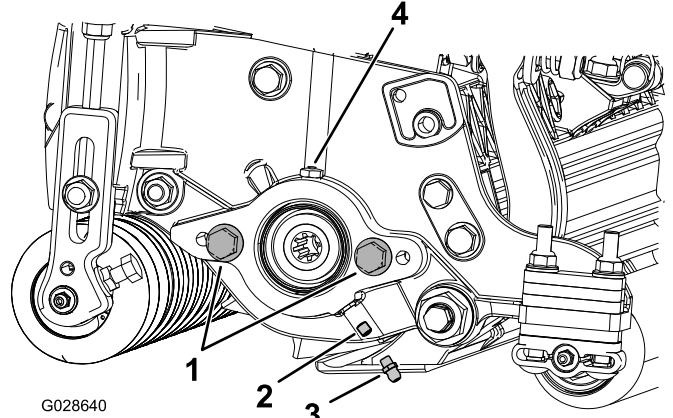

Figure 6
1. Remove and discard the set screw on the reel-motor side-plate (Figure 6).
2. Install the straight grease fitting (Figure 6).
3. If there are no capscrews on the reel-motor side-plate, install them (Figure 6).
5. Install the reel motor, and grease the side plate until excess grease pours out of the grease vent (Figure 6).